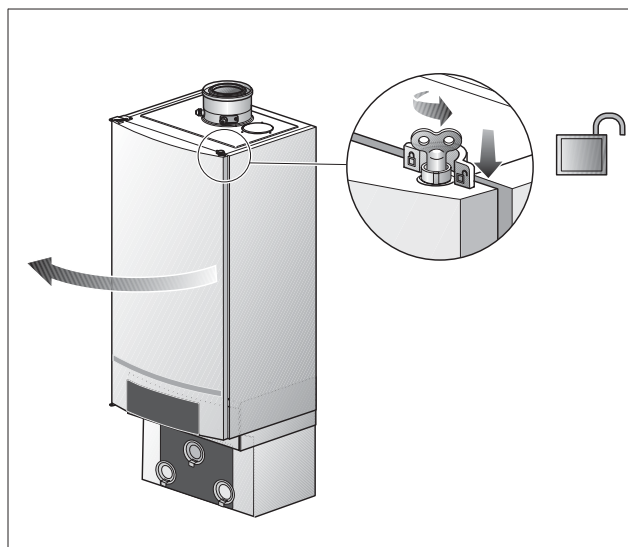

fig. 37 Open the boiler door
- Turn the vent key through a quarter rotation to undo the boiler door lock (fig. 37, **see detailed picture**).
- Push the fastener down (fig. 37) and open the boiler door.